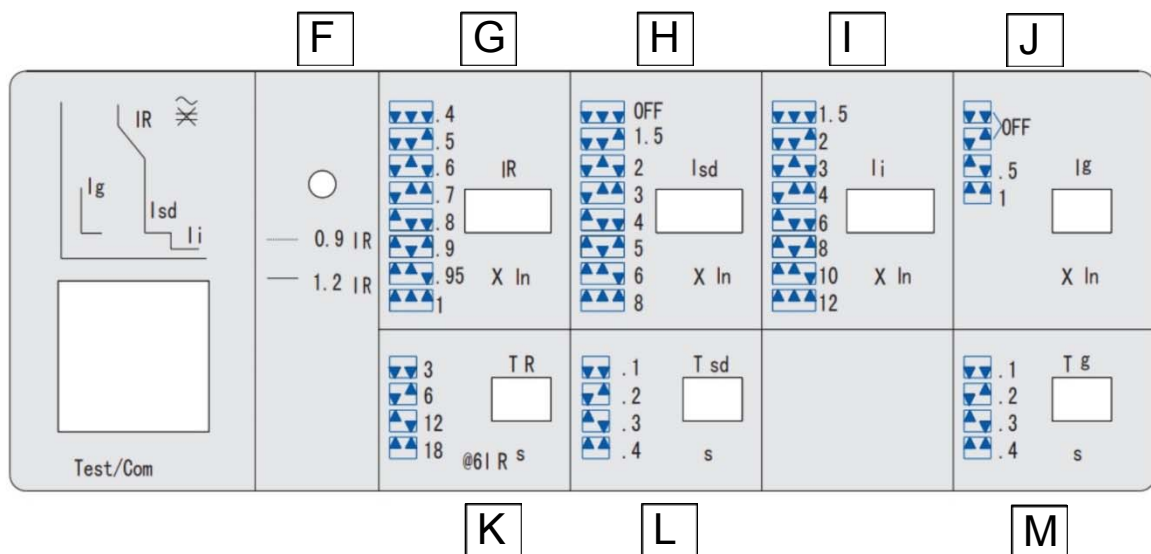

Figure 3. smartPDU 72 main breaker settings panel
A settings panel immediately below the main breaker (see Figure 3) gives status information and lets you adjust the main breaker's settings. Do not change these settings unless you are 100% certain that you understand the implications of doing so. Under most circumstances, the default settings are preferable.
The status LED **F** in Figure 3 indicates the single-phase operating current relative to I_R (continuous trip current) as follows:
To adjust the trip current settings, slide open the transparent cover below the breaker and set the pins in the DIP-switches shown in Figure 3 as follows:
DIP-switches **G** in Figure 3 set the level of continuous current (I_R) that will trip the breaker.
DIP-switches **H** in Figure 3 set the level of short-time current: (I_{sd}) that will trip the breaker.
DIP-switches **I** in Figure 3 set the level of instantaneous current: (I_i) that will trip the breaker.
DIP-switches **J** in Figure 3 set the level of continuous current on the Neutral line (I_g) that will trip the breaker.
DIP-switches **I** in Figure 3 set the duration in seconds (T) of continuous current (I_R) that will trip the breaker.
DIP-switches **J** in Figure 3 set the duration in seconds (T) of short-time current (I_{sd}) that will trip the breaker.
DIP-switches **K** in Figure 3 set the duration in seconds (T) of current on the Neutral line (I_g) that will trip the breaker.